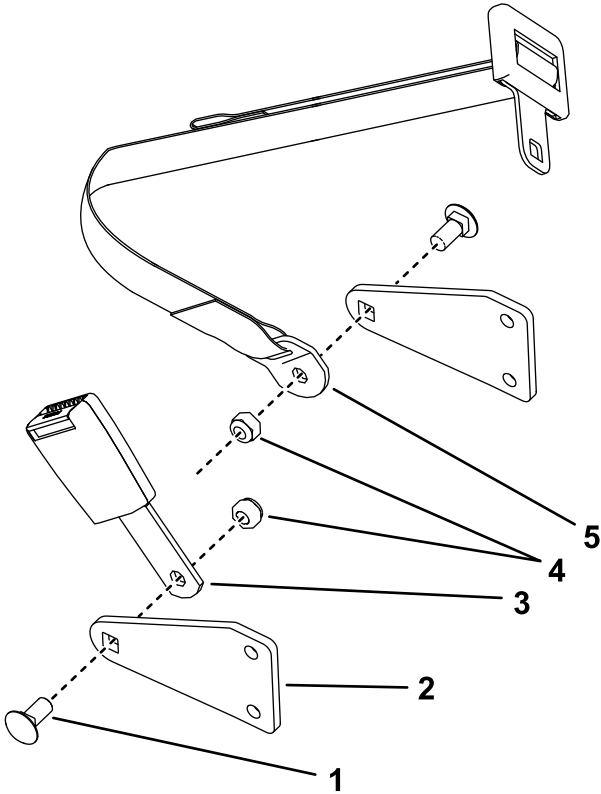

Figure 12
1. Install the seat belt buckle and tongue to the inside of the seat belt brackets with 2 carriage screws (7/16 x 1 inch) and 2 locknuts (7/16 inch) as shown in Figure 12.